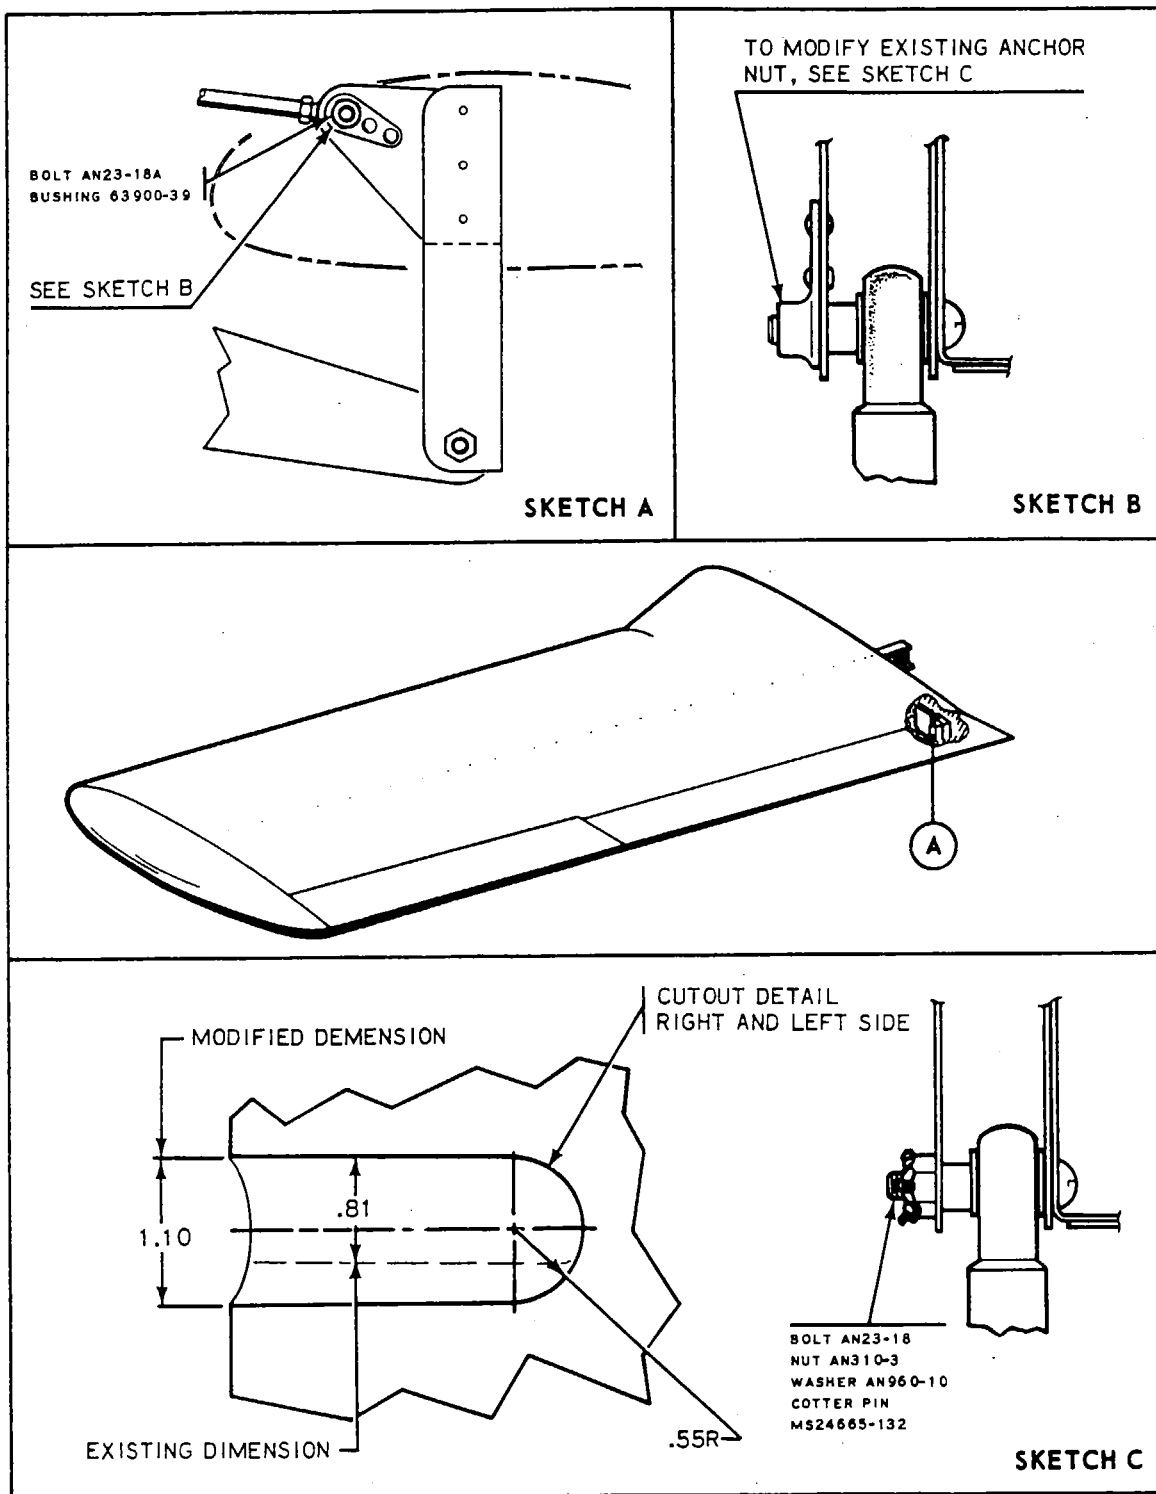

Figure 4-13. Flap Modification
4-28. FLAP INSPECTION AND MODIFICATION. (Refer to Figure 4-13.) Inspect the aft flap attaching point for security. If it is found secure, no modification is required. If the clevis bolt appears to be working loose from the anchor nut, the attachment point should be modified in accordance with the following instructions.
- b. The skin on the flap must be modified in accordance with Figure 4-13.